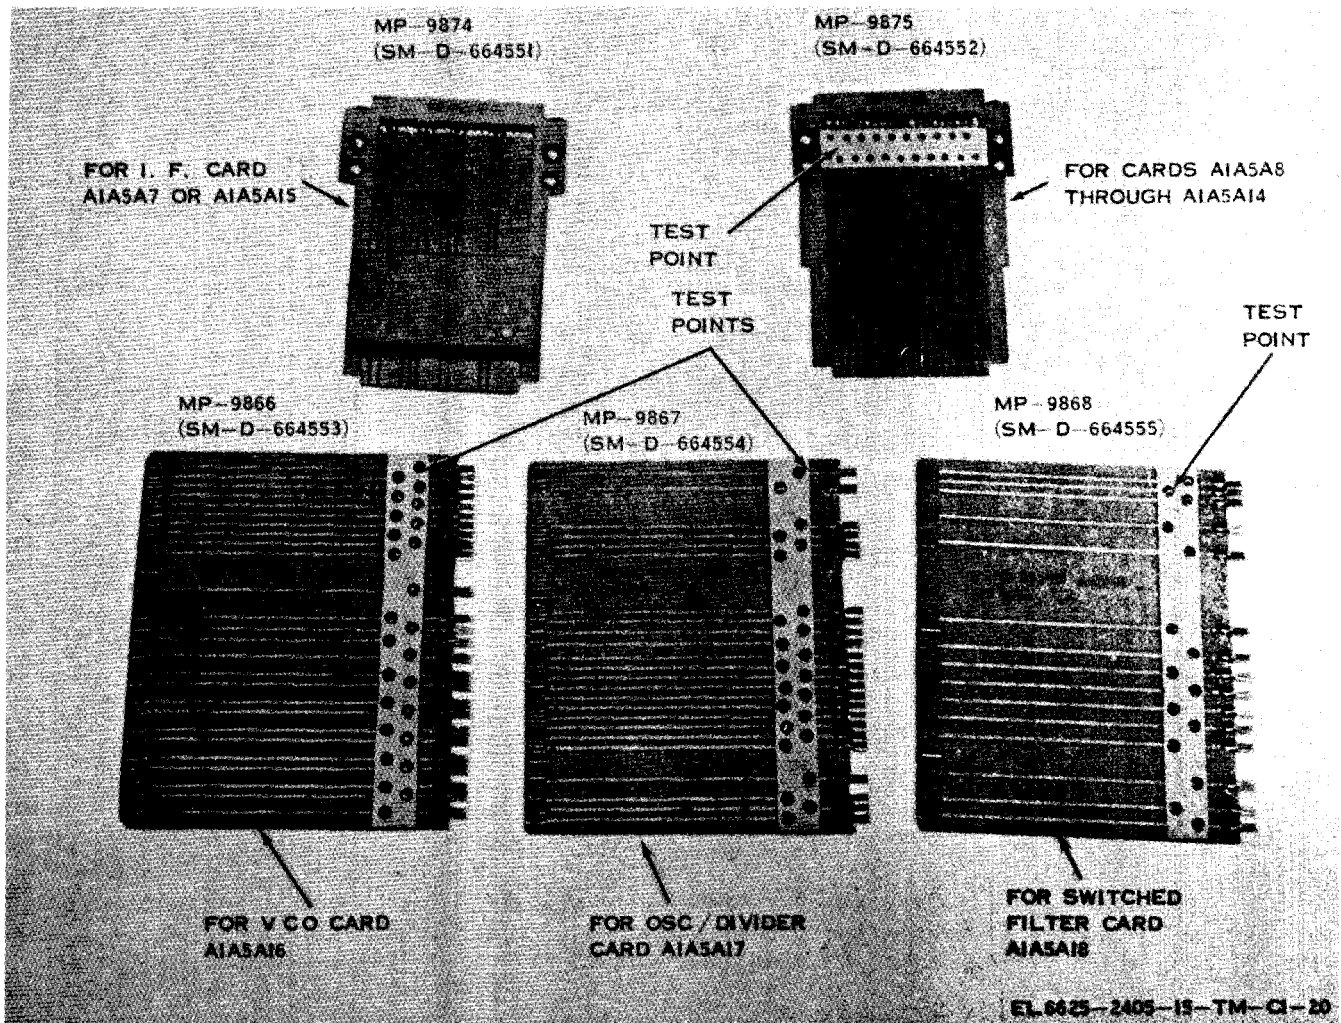

Figure 1-4. Extender cards for Radio Set AN/ARC-114, OA-8540/ARM.
b. Extender cards. (figs. 1-4, 1-5, and 1-6). The extender cards provide straight-through con-